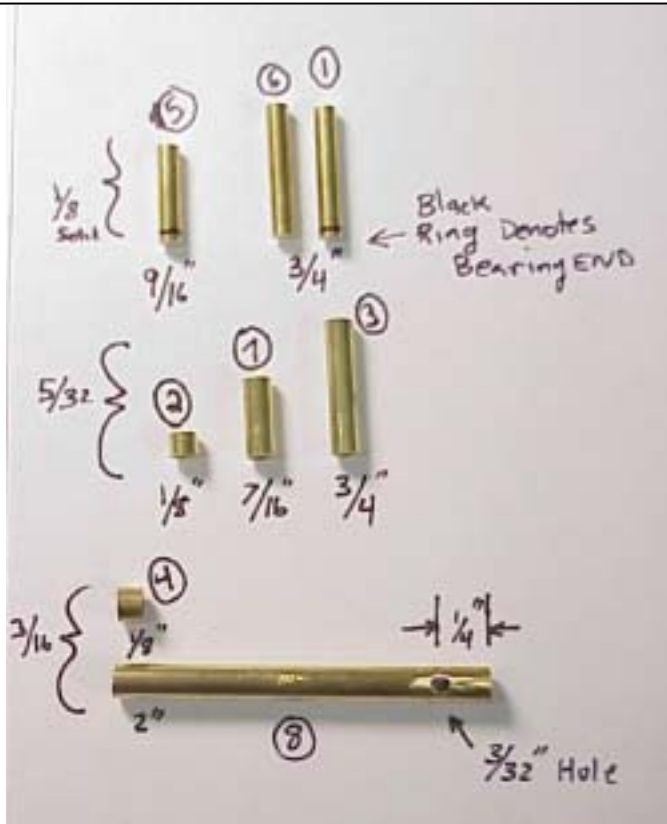

Figure 3-4: cutting and shaping complete
The Rotor Bearing is assembled from parts (1) and (2) shown in Figure 3-4.
The stator bearing is constructed from parts (3), (4), and (5) of Figure 3-4.